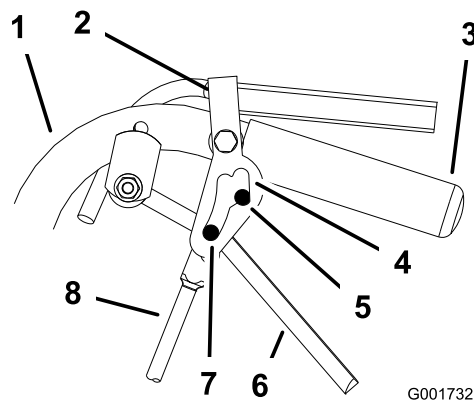

Figure 53
5. Release and engage neutral lock checking that the tire does not rotate (Figure 53). Continue this process until the tire does not rotate.